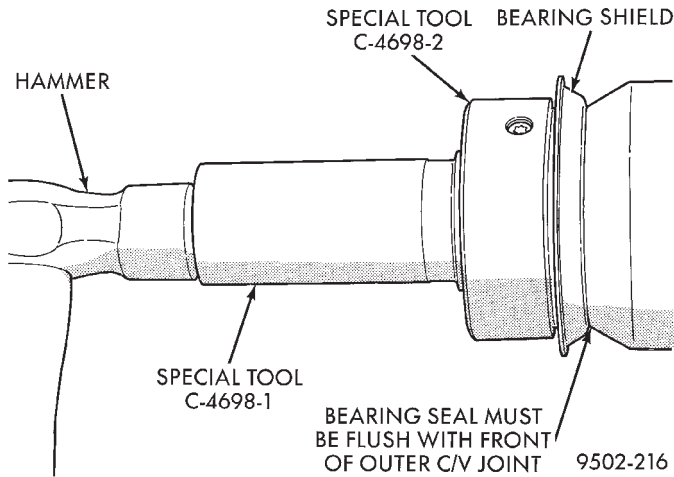

Fig. 44 Correctly Installed Bearing Shield
- (3) Using a hammer, drive the bearing shield on the outer C/V joint until it is flush against the front of the outer C/V joint (Fig. 44).